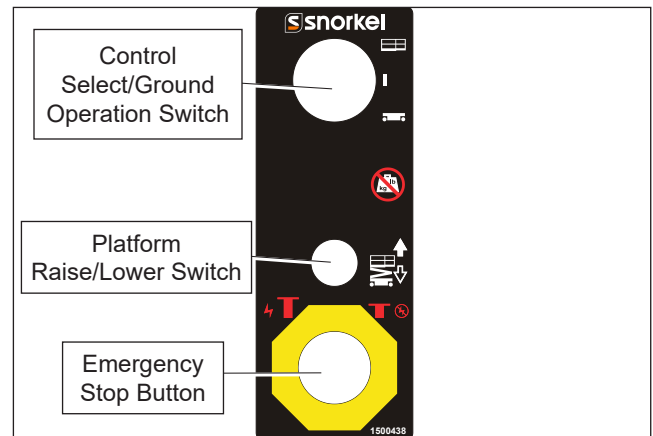

Figure 9.1 – Lower Controls
1. Pull the emergency stop button outward (refer to Figure 9.1).
1. From the lower controls, pull the emergency stop button outward (refer to Figure 9.1).